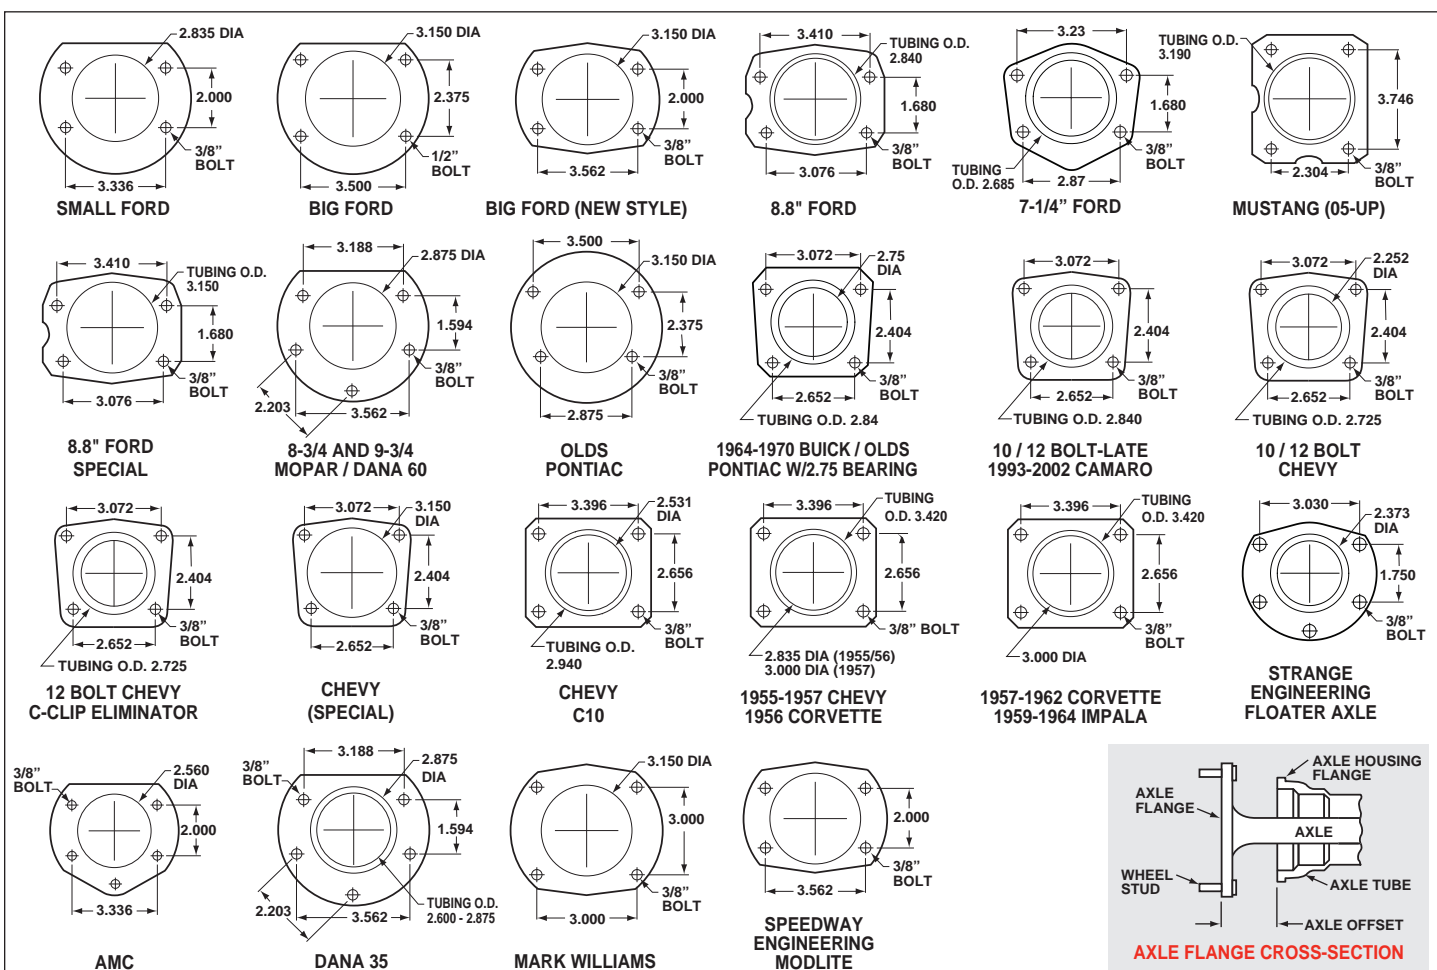

Figure 6. Rear Housing Flange Chart and Axle Flange / Offset Cross-Section
- Make sure this is the correct kit to fit the axle housing flange, not necessarily the rear end make. Many times aftermarket manufacturers put a different make of axle housing flange on the stock rear end housing (Figure 6). Example; Big Ford rear ends with Olds-Pontiac flanges, therefore, an Olds-Pontiac rear disc brake kit would be the correct kit to order. Also, shock clearance may be a problem. They may have to be modified and/or relocated to clear the Wilwood kit after final assembly.
- Dimension from wheel side of axle flange to wheel side of axle housing flange (see Figure 6, lower right hand corner). This dimension is critical to ensure proper alignment of the rotor to the caliper, and should match offset given in the kit description.